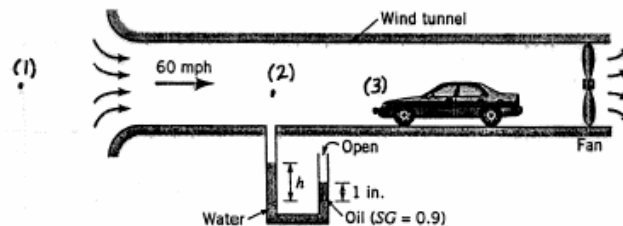

FIGURE P3.27
3.27 Air is drawn into a wind tunnel used for testing automobiles as shown in Fig. P3.27. (a) Determine the manometer reading, h , when the velocity in the test section is 60 mph. Note that there is a 1-in. column of oil on the water in the manometer. (b) Determine the difference between the stagnation pressure on the front of the automobile and the pressure in the test section.